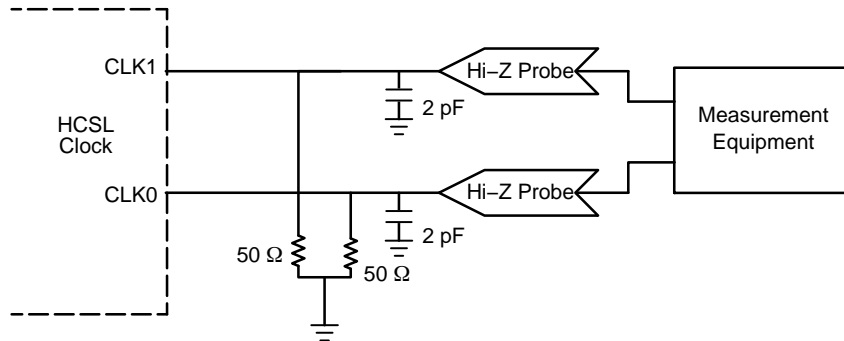

Figure 8. HCSL Parameter Measurement
8. Measurement taken with outputs terminated with $R_S = 0 \Omega$, $R_L = 50 \Omega$, with test load capacitance of 2 pF. See Figure 8. Guaranteed by characterization.